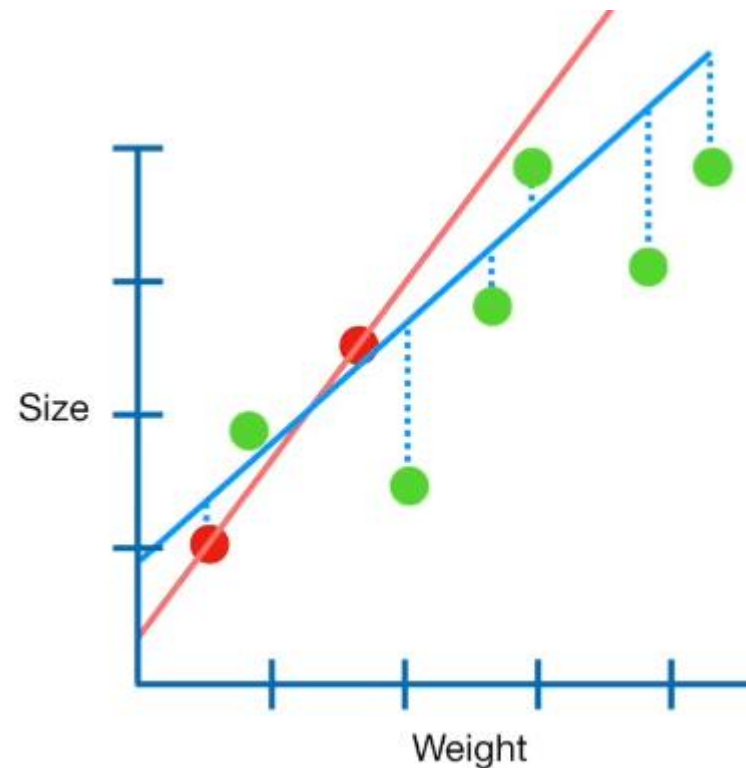

Fig 2. Example Ridge regression [2]
- [2] Fig 2. Example Ridge regression. **"Regularization Part 1: Ridge (L2) Regression"** by **J. Stamer**, 2018, <https://www.youtube.com/watch?v=Q81RR3yKn30>